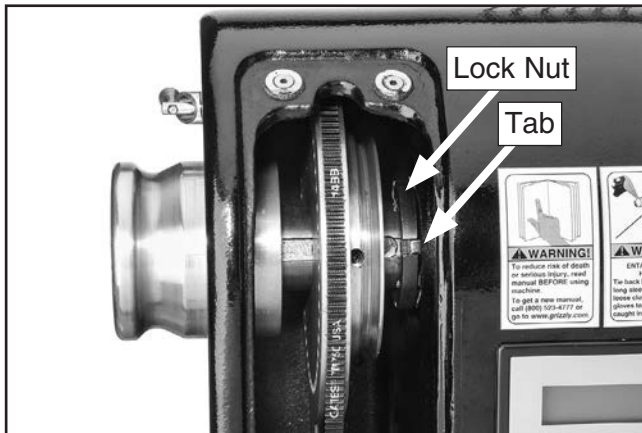

Figure 69. Location of bearing lock nut inside headstock.
3. Carefully bend back any tabs (see **Figure 69**) on tabbed lock washer.